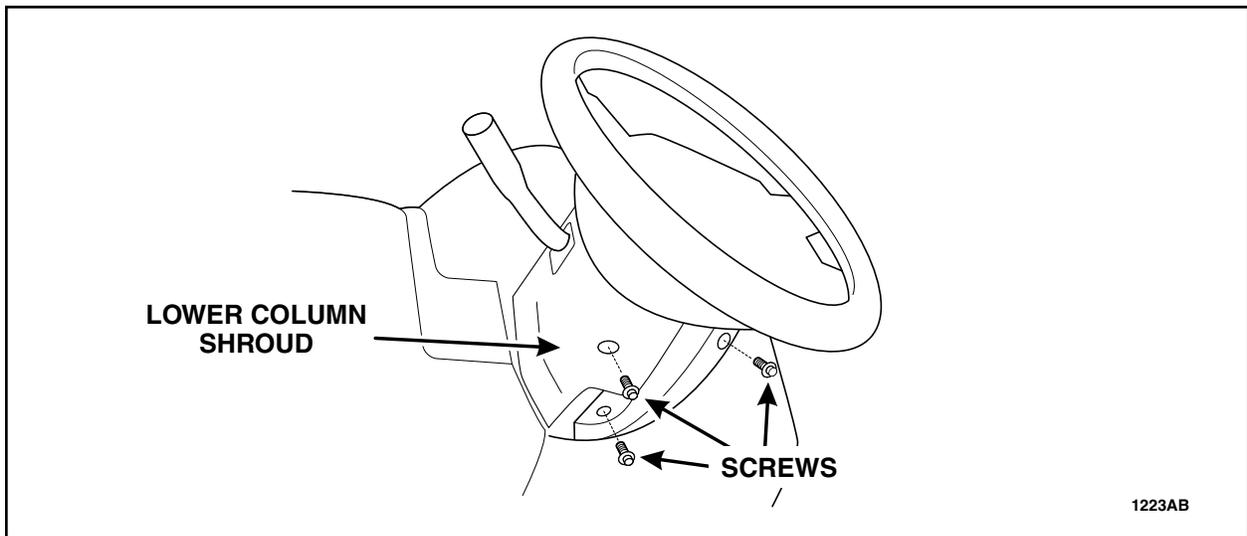

FIGURE 5
9. Remove the three machine screws and the lower column shroud. See Figure 5.
37. Install the lower column shroud and tighten the three machine screws. See Figure 5.